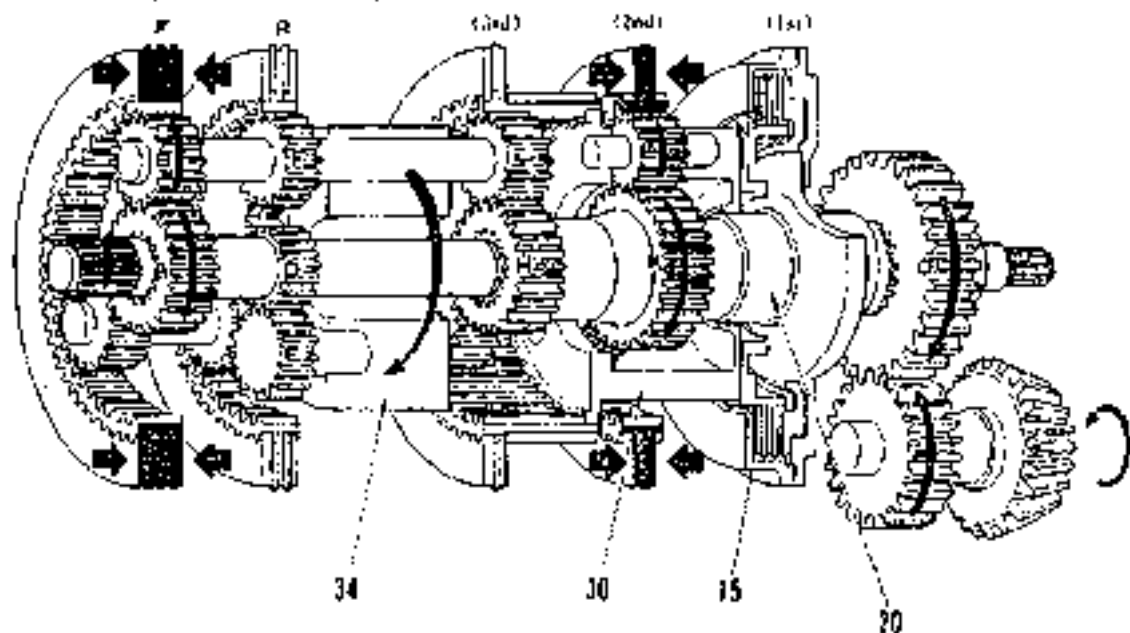

Fig. 2-22 Forward 2nd speed transmitting line
2. Forward 2nd speed transmitting line(See Fig. 2-22).